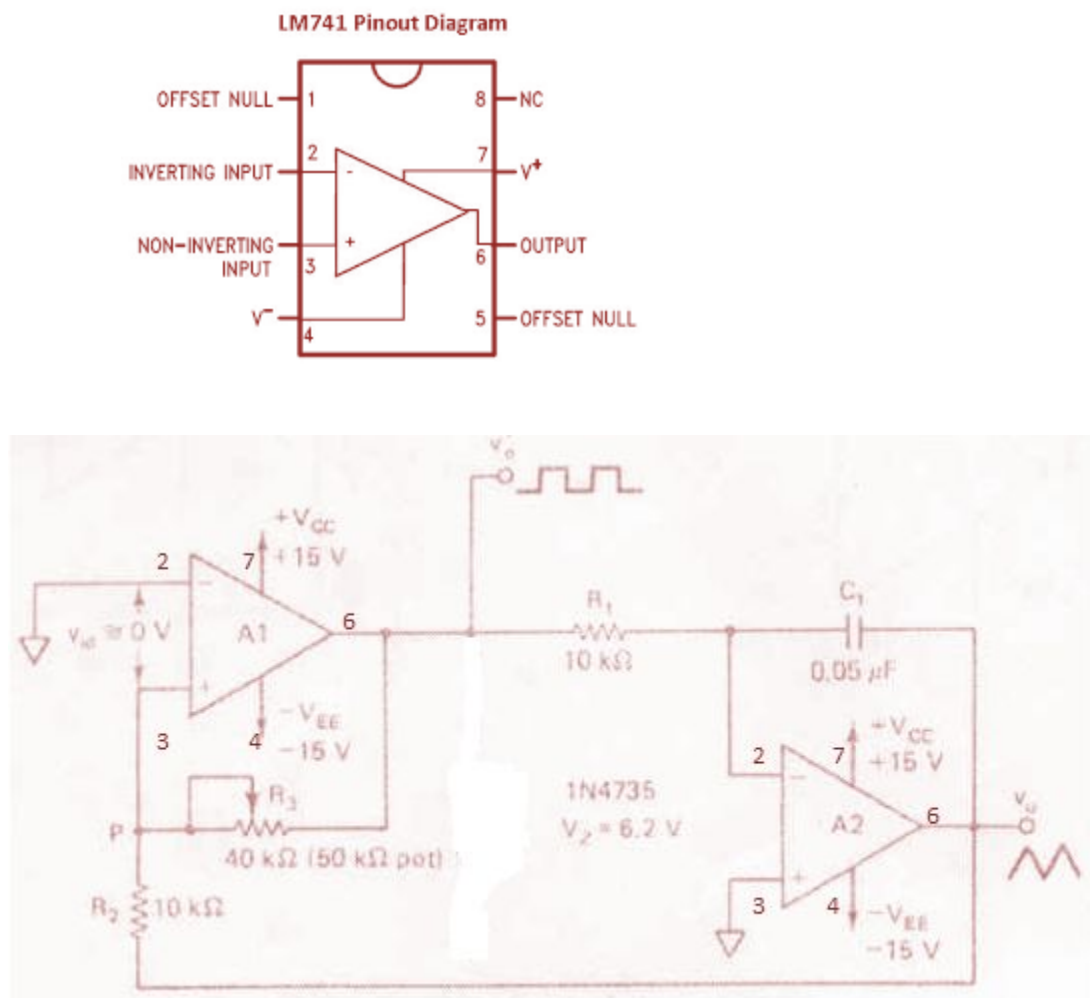
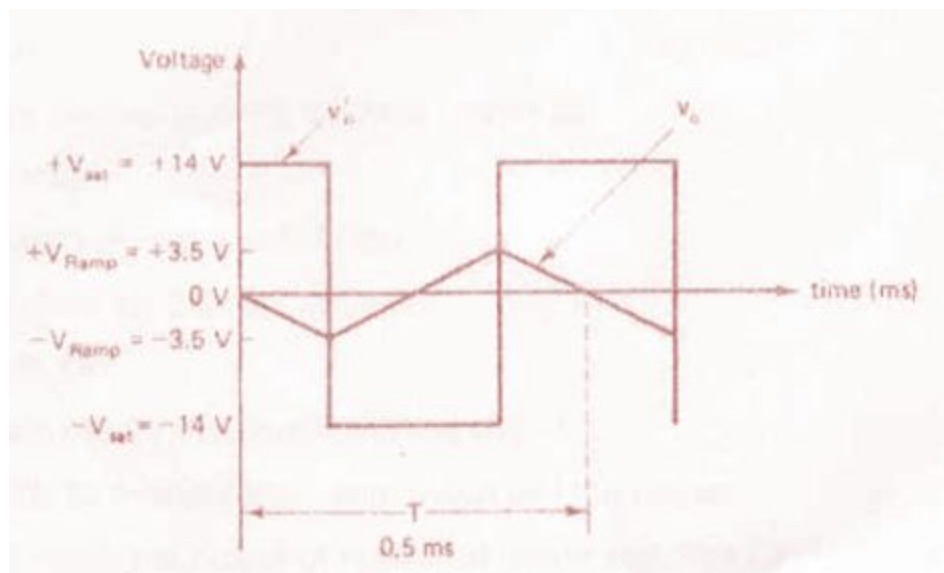

Figure 1
Figure 2
**THEORY:** Figure 1 shows the triangle wave generator using op-amp. The generator consists of a comparator A 1 and an integrator A2. The comparator A 1 compares the voltage at point P continuously with the inverting input that is at 0V. When the voltage at P goes slightly below or above 0V, the output of A 1 is at the negative or positive saturation level, respectively. To illustrate the circuit's operation, let us set the output of A 1 at positive saturation +V sat. This +V sat of A 1 and the other is the negative-going ramp of A2. When the negative-going ramp attains a certain value -V ramp, point P is slightly below 0V; hence the output of A 1 will switch from output of A2 will now stop going negatively and will begin to go positively. The output of A2 will continue to increase until it reaches +V ramp. At this time the point P is slightly above 0V; therefore, the output of A 1 is switched back to the positive saturation level +V sat. The sequence then repeats. The output waveform is as shown in figure 2